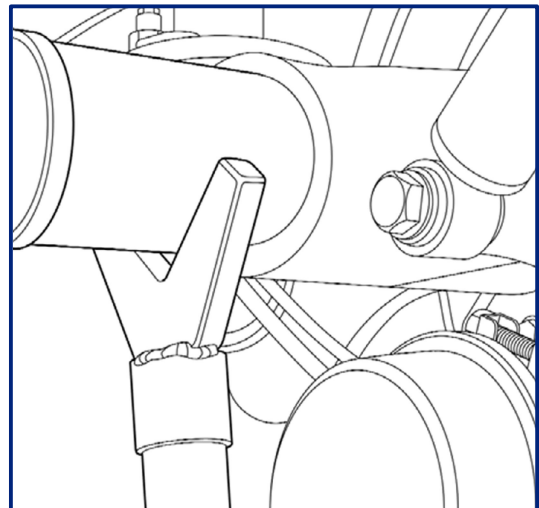

Fig 13
**WARNING:** Ensure that the axle support is secure during this operation as the arcuate motion may cause the axle to move backwards (Fig 13).